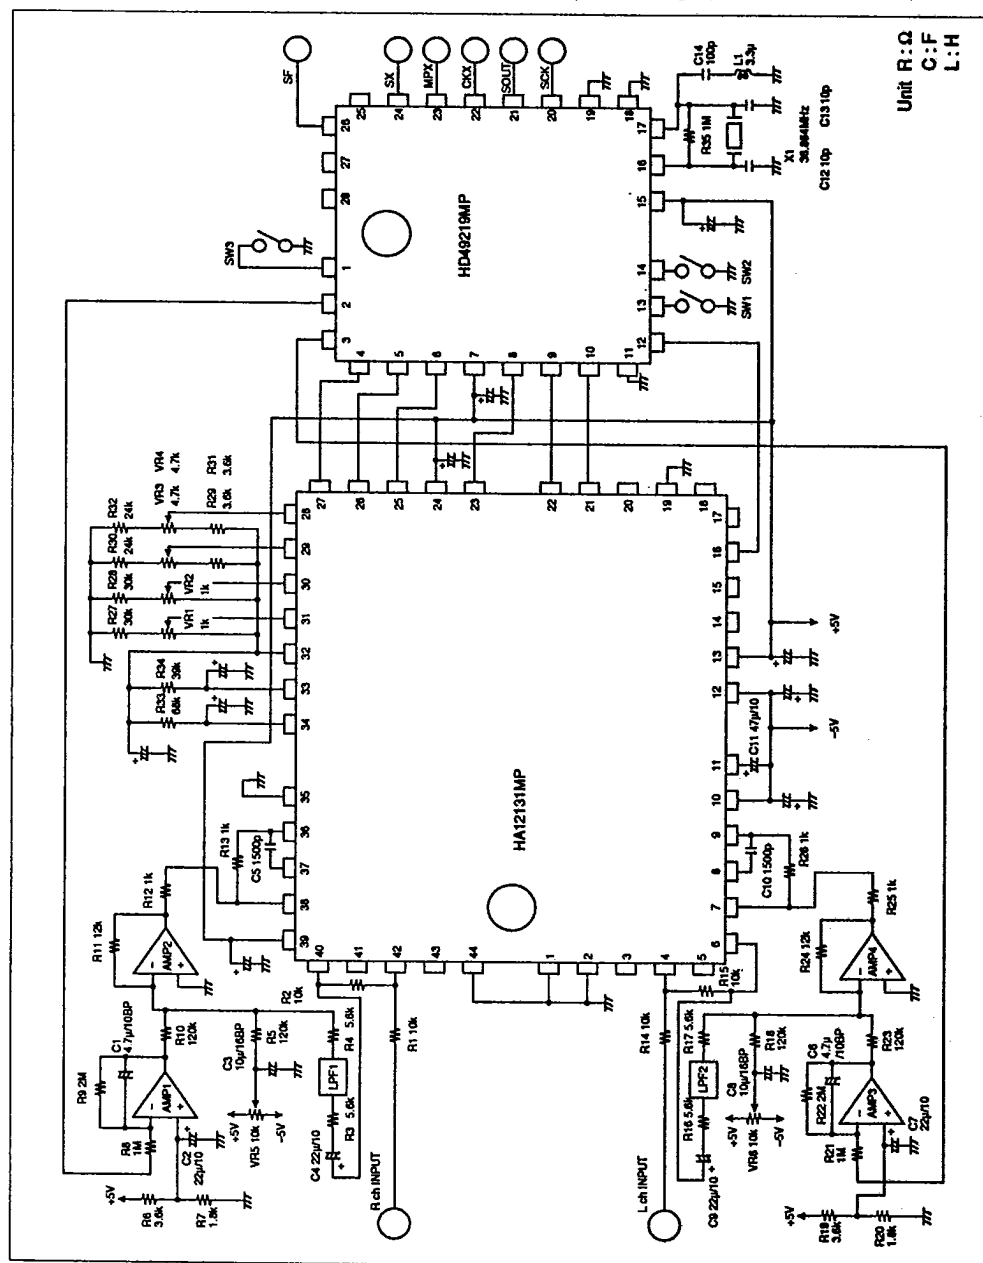

Figure 11. Normal Sampling 2ch Circuit Example
2. Applying a trigger pulse at S/H of HD49219MP, adjust VR5 and VR6 (Figures 11 and 12) so that MSBs are approximately half 1 and half 0.